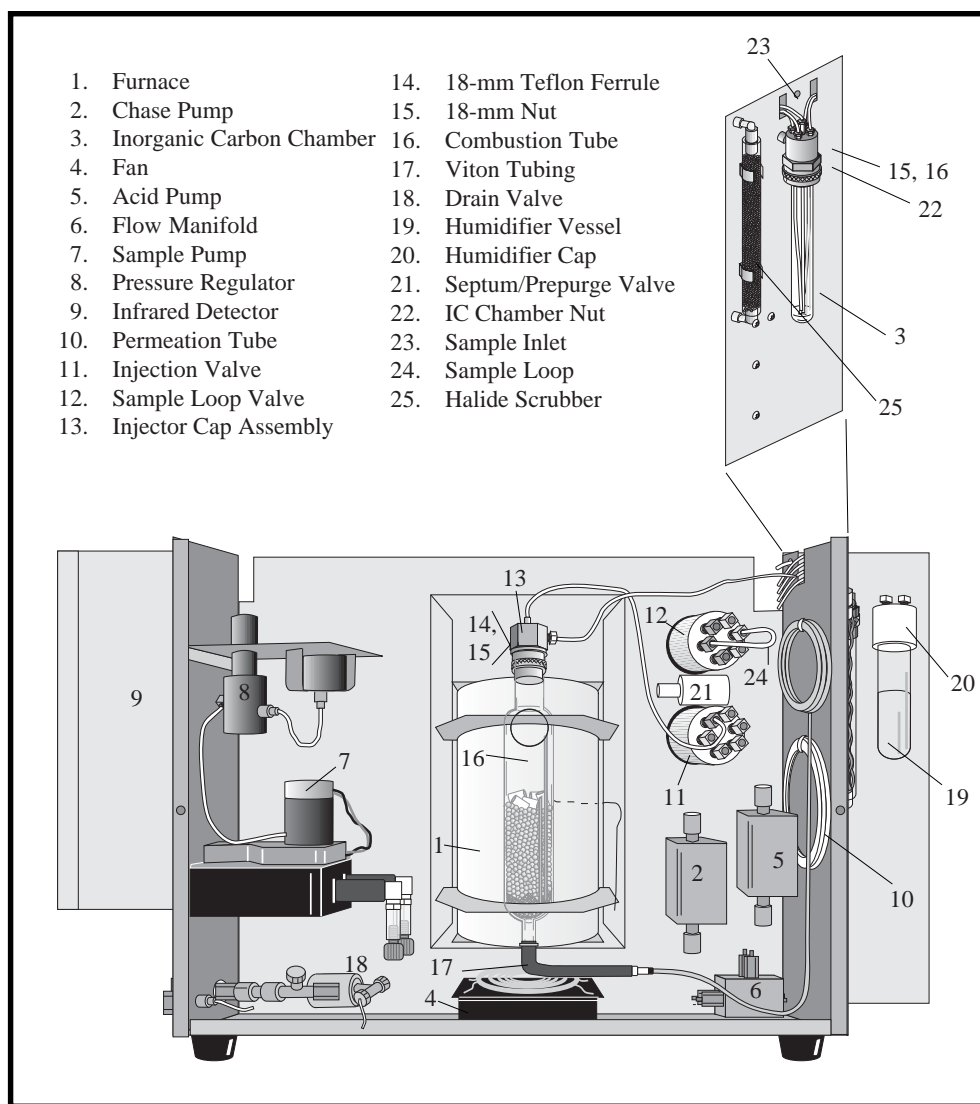

Figure 3.1. Left Interior of the Model 1020A TOC Analyzer
2. Lift the cover straight up and off. Refer to Figure 3.1 for the major flow components of the Model 1020A TOC Analyzer.
1. Locate the sample valve on the inside of the instrument (Figure 3.1, #12).
1. Fill the humidifier vessel to  $\frac{3}{4}$ -full with reagent water, add one pellet of sodium hydroxide, and snap the vessel into position (see Figure 3.1).